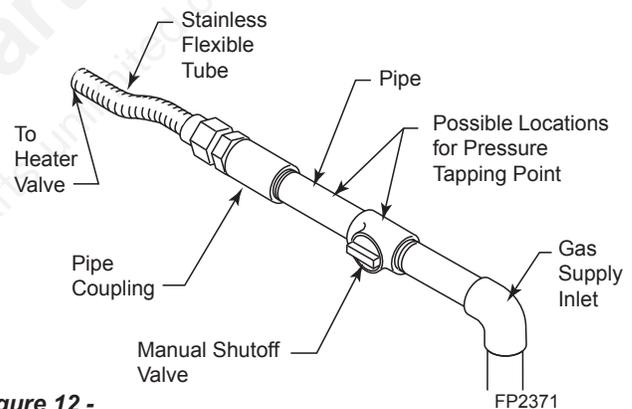

Figure 12 -
4. Anchor the unit to the fireplace/firebox floor using the screws provided. *Figure 12*.
A manual shutoff valve must be installed upstream of the appliance. Union tee and plugged 1/8" NPT pressure tapping point should be installed upstream of the appliance. *Figure 12*